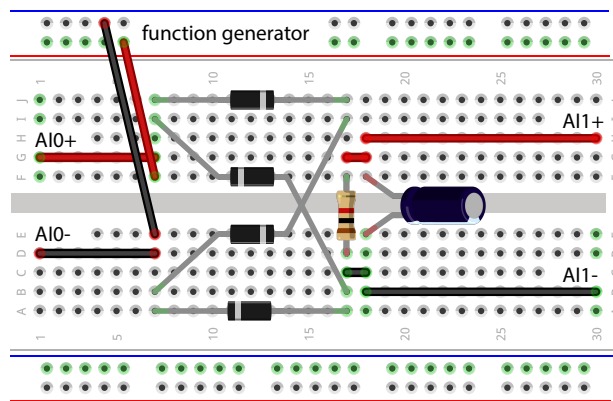

Figure 05.7: an example of how the breadboard circuit might look.
4. Build the circuit on a breadboard. It should look something like Figure 05.7.